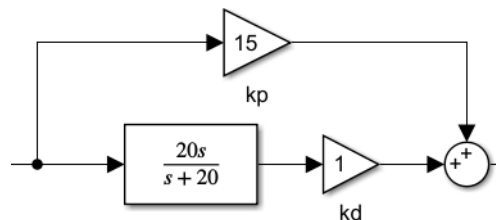

Figure 4: Proportional gain and filtered derivative gain feedback loop
5. Add a *transfer function* and derivative *gain* block  $k_d$  in parallel with the proportional *gain* as shown in Figure 4.